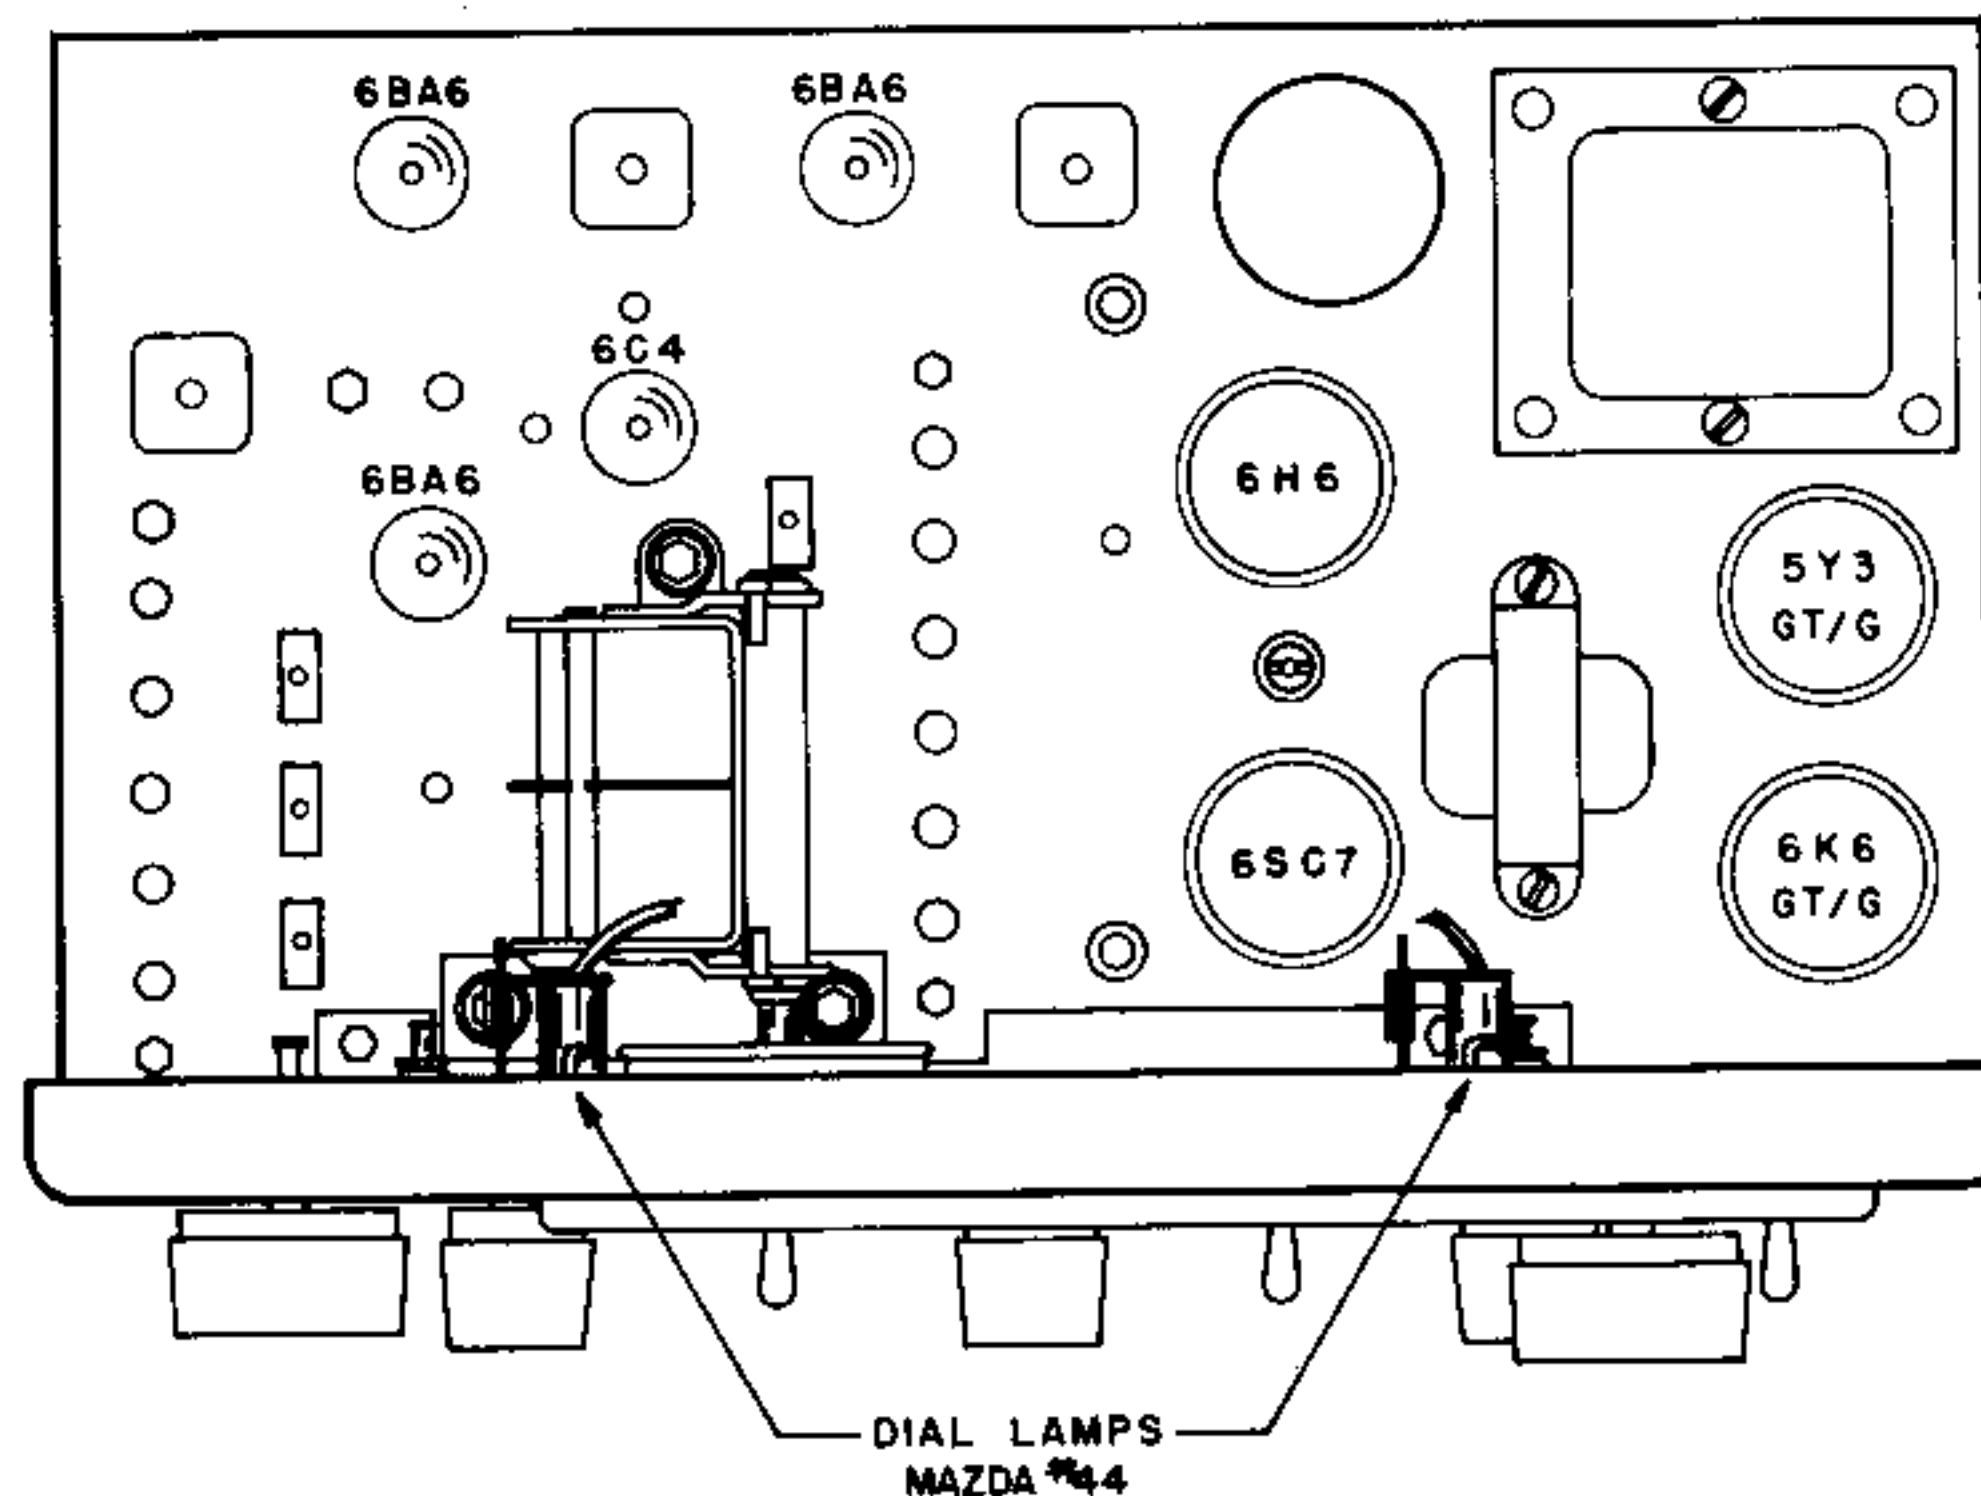

Fig. 8. Top View of Chassis Showing Location of Tubes and Dial Lamps
TUBE REPLACEMENT- The tube types and their relative location in the receiver are shown in Fig. 8. To gain access to all tubes, open the hinged top cover of the cabinet. When installing a replacement octal tube: (1) Insert the center guide pin of the tube into the center hole of the tube socket (2) Rotate the tube until the key on the guide pin drops into the notch in the socket hole and (3) Push down on the tube until the base of the tube rests firmly on the socket. When installing a replacement miniature tube, line up the seven pins on the tube with the socket holes before pushing the tube into place. Handle all tubes with care as they are fragile and will not withstand mechanical abuse.
DIAL LAMP REPLACEMENT- Refer to Fig. 8 for the location of the dial lamps used in the receiver. To gain access to the dial lamps, open the hinged top cover of the cabinet. Unclip the dial lamp socket from the mounting bracket. The socket and lamp can then be brought out into the open. Make replacement with a 6-8 volt, 250 ma Mazda #44 pilot lamp or equivalent.